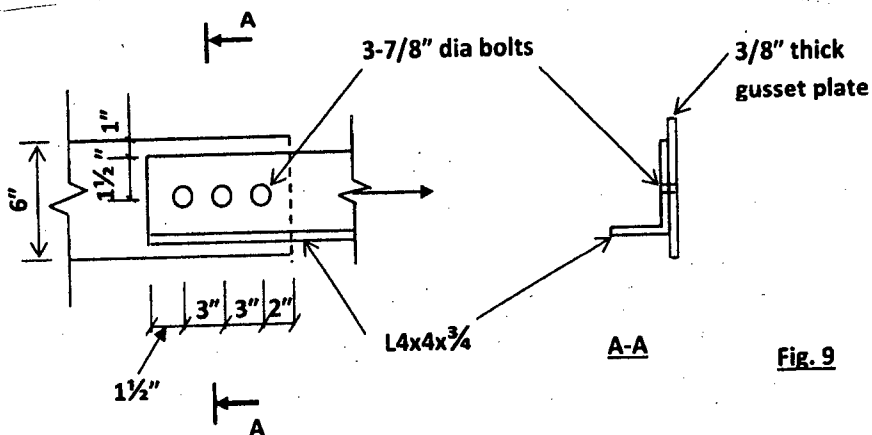

Fig. 9
- (b) Calculate the allowable strength (in ASD) in block shear for the connection developed by the L4 × 4 × 3/4 angle attached with three 7/8-in. diameter bolts to a 3/8-in. gusset plate, as shown in Fig. 9. The material is A36 steel ( $F_y = 36$  ksi,  $F_u = 58$  ksi) for both angle and gusset plate. Other limit states need not be checked. Annexure-3 is provided to facilitate the design. Assume uniform tensile stress.